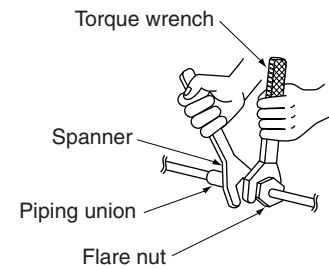

Fig. 21
- Be sure to use both a spanner and torque wrench together, when connecting or disconnecting piping to/from the unit. (Refer to Fig. 21)